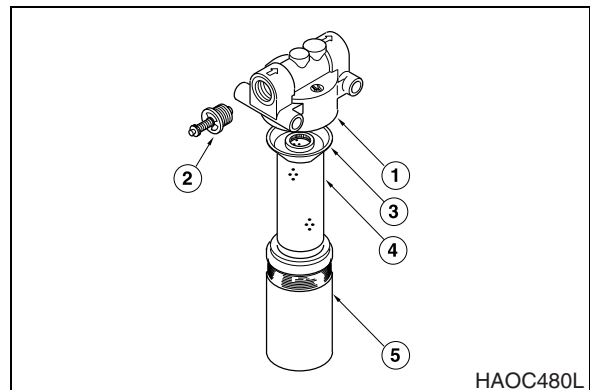

Figure 55
4. Unscrew canister (5, Figure 55) and remove O-ring (3) and filter cartridge (4).
5. Insert a new filter cartridge and O-ring. Apply a small amount of oil around the entire O-ring and reinstall the canister assembly onto the filter head (1, Figure 55).